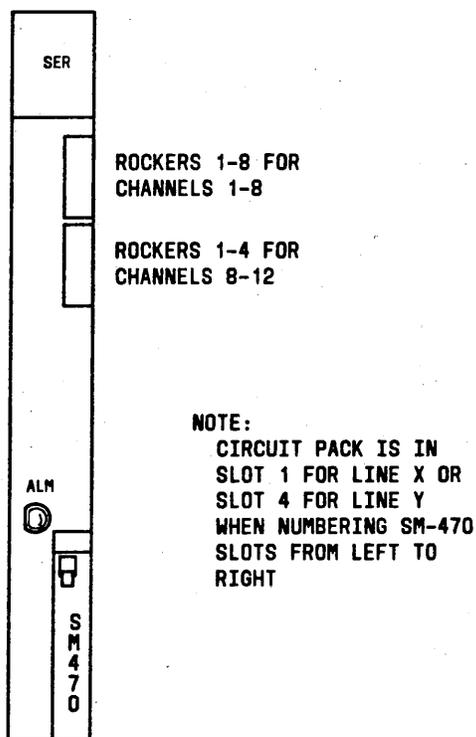

Fig. 16—16-MS Tail for Channels 1 Through 12
- To provide echo canceling for channels 1 through 12, specify circuit pack SM470 be installed in slot 1 for line x or slot 4 for line y. Figure 16 shows which rockers apply to which channels.